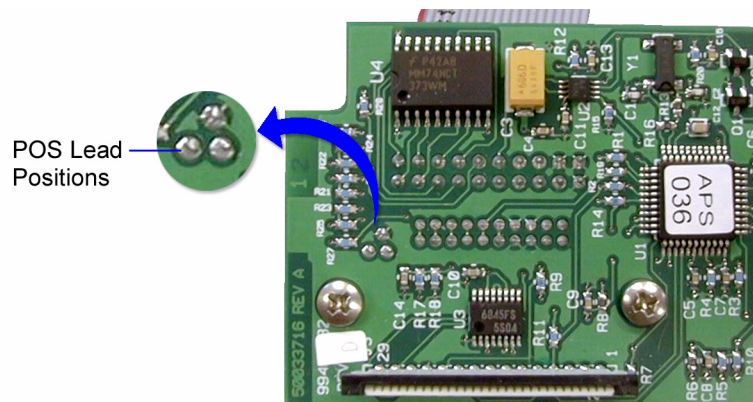

Figure 7-3 Printer Interface PCB
- a. Connect the NEG lead of the DVM to the chassis of the power supply and the POS lead to the positions shown in Figure 7-3.